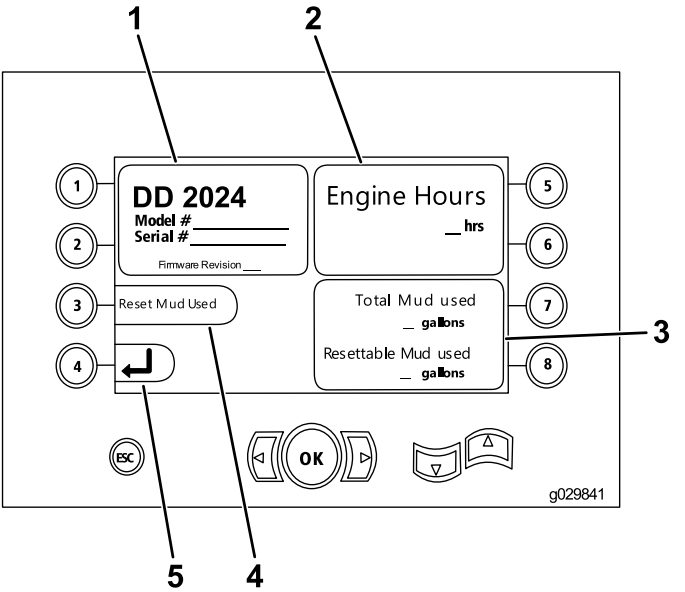

Figure 9
- The machine model and serial number (Figure 9).
- The number of engine hours for the machine (Figure 9).
- The number of drilling fluid-gallons used and the number of re-settable drilling-fluid (mud) used (Figure 9).
Note: Press button 3 to reset the number of drilling-fluid (mud) gallons since the last reset (Figure 9).